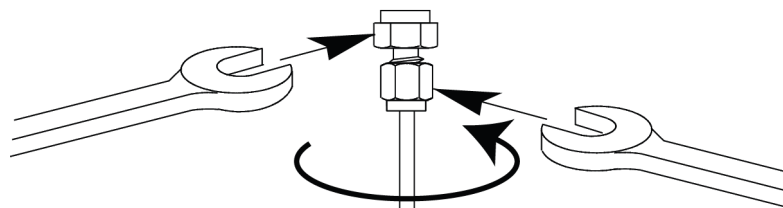

Figure 28. Final tightening
7. For 1/8-inch Swagelok fittings, use a pair of wrenches to tighten the fitting 3/4 of a turn. See **Figure 28**.